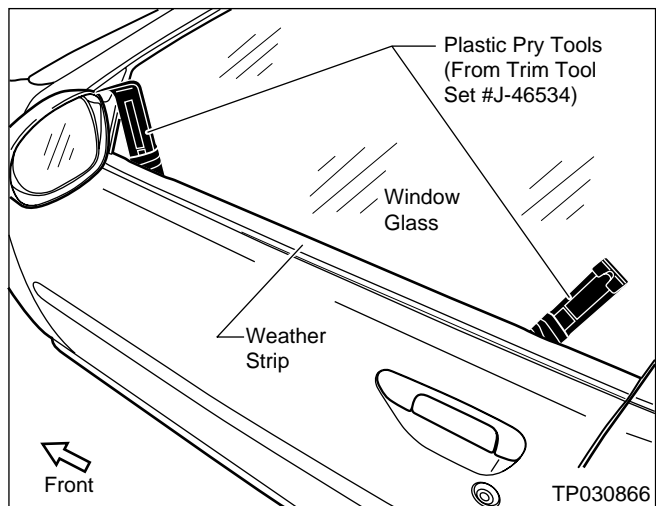

Figure 8
- Carefully insert the Plastic Pry Tools between the Window Glass and Weather Strip (see Figure 8).